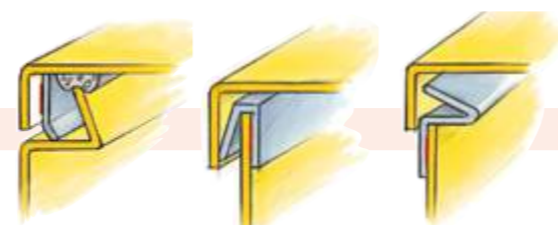

Figure 42 : Solutions for medium size constructions
- 42 Small construction:** (about 200 x 200mm) multi-shield gasket, consisting of metal wire from top to bottom though a soft silicone rubber with a thickness of 2-3mm are suitable. (Fig. 42)